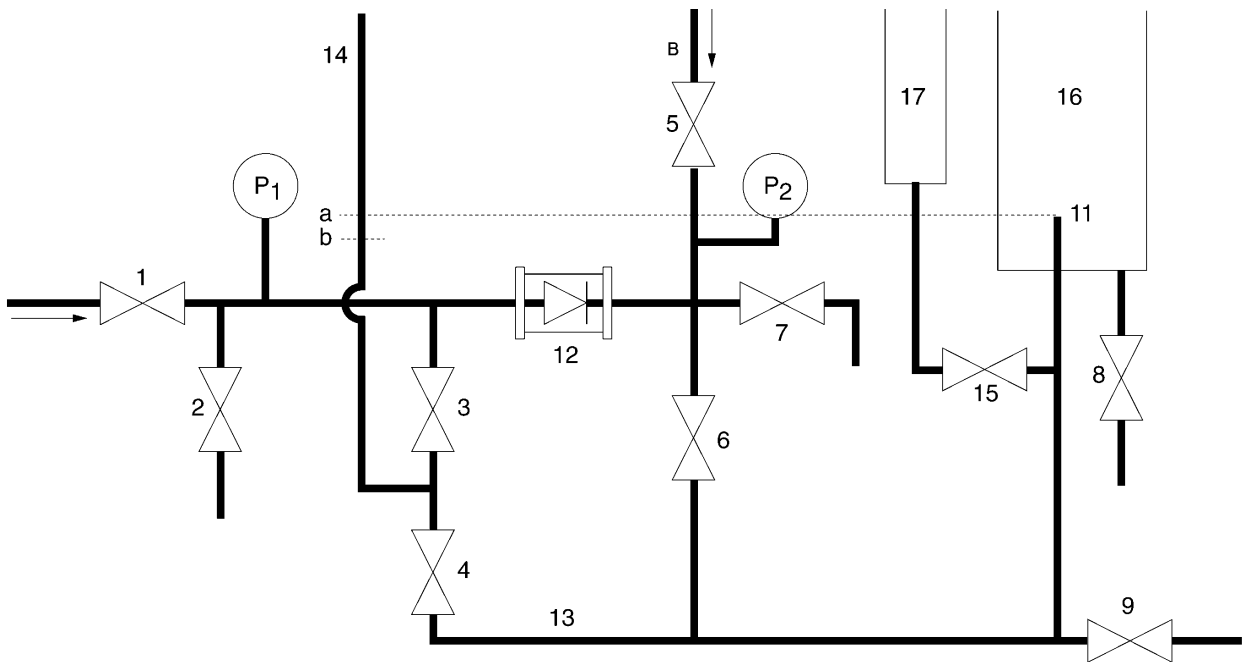

FIG 05
A supply of water to achieve the test flow rates at the required pressure. (Reference Figure 05).
The example of the test equipment shown in the Figure 05 is for guidance only.
- (1) Mount the device in the test system in its normal working position. (Reference Figure 05).
- (2) Close valve '5'.
- (3) Open valve '7' and then valve '1' to gradually increase pressure in tube '14' until the check valve opens. Then record the level in tube '14'.